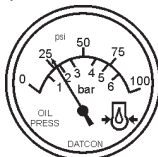

Figure 47. Oil Pressure Gauge
11. The engine oil pressure gauge (Figure 47) will indicate the oil pressure of the engine. Under normal operating conditions the oil pressure is approximately 28 to 85 psi. (193~586 kPa).